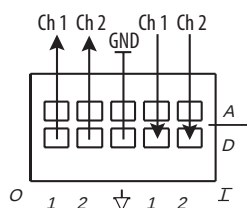

Figure 2-4
2. Connect the other end of this cable to the front panel data terminal block connector on the Mini-RGB-AD (see Figure 2-4).